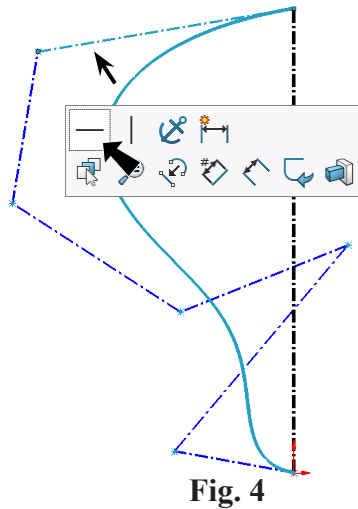

Fig. 4
Step 7. Click **top control polygon segment** and click **Make Horizontal**  on the context toolbar, **Fig. 4**.